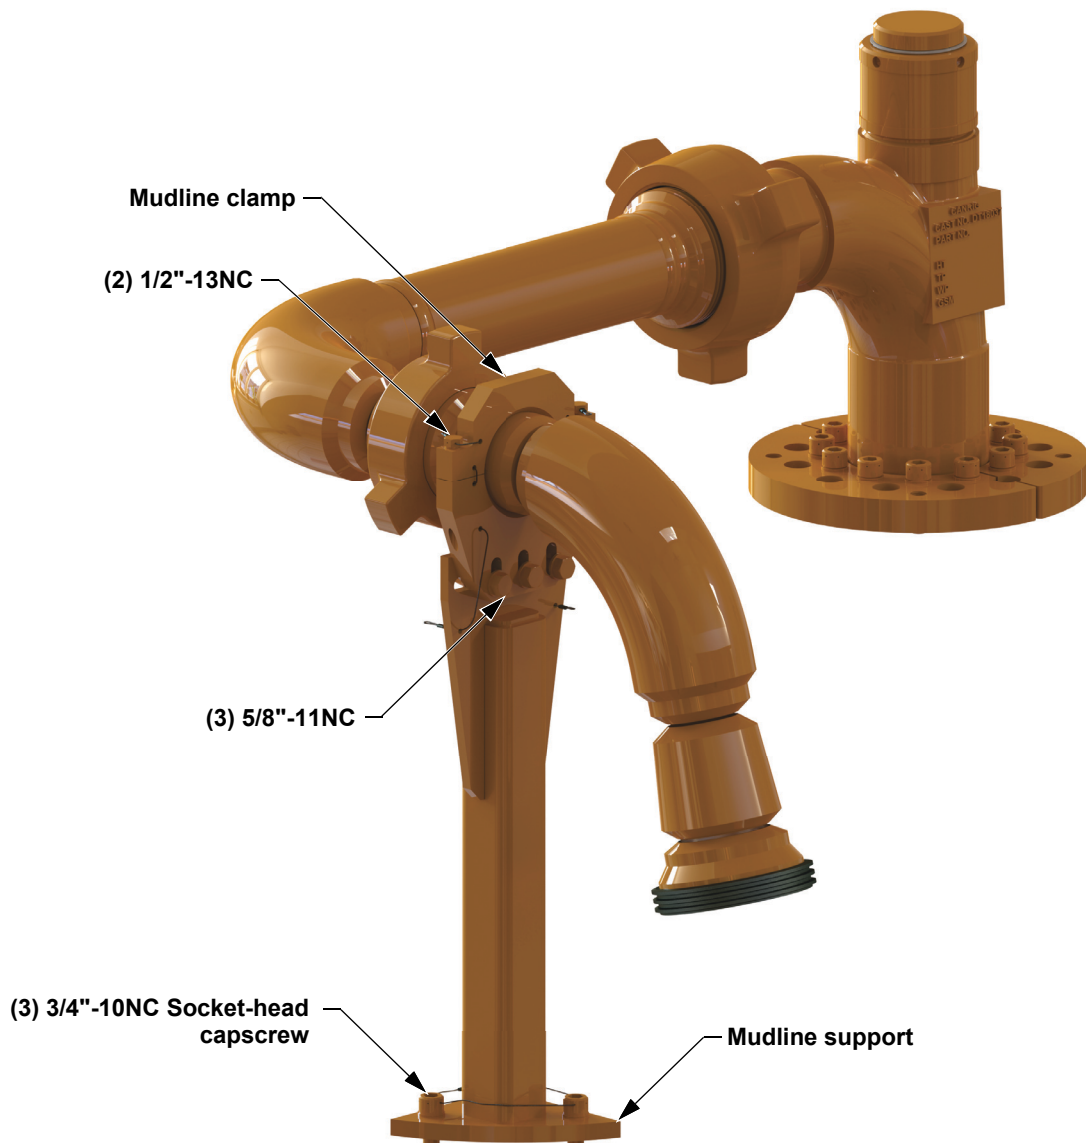

Figure 3: Secondary retention on mudline mount
2. Visually inspect the mudline mount and clamp to ensure secondary retention and safety securement has been installed and secured as shown in Figure 3. Refer to bulletin "Mudline Clamp Alert" (TDS-155) for further guidance on mudline clamp installation.